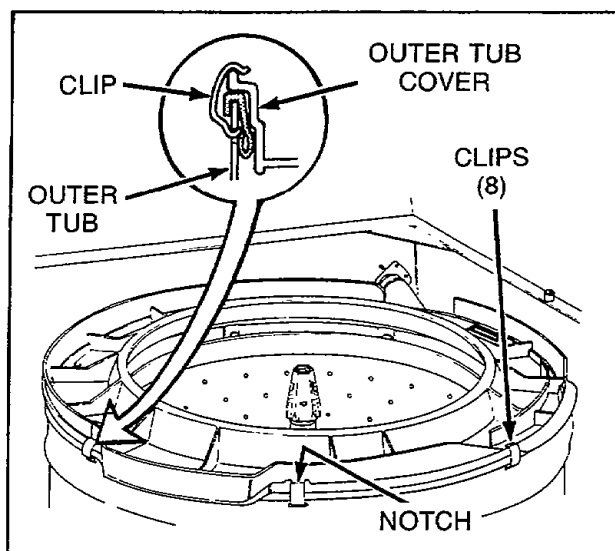

Figure 21
- Remove eight clips holding outer tub cover to tub, *Figure 21*, lift cover off tub and set beside washer cabinet.
NOTE: When installing outer tub cover, always use a new cover gasket. Lubricate the gasket with a rubber lube or liquid soap to aid in assembly. Cover must be placed on outer tub so notch on top edge of outer tub cover is directly over left front clip hole in tub, *Figure 21*. Starting with this hole, place each spring clip in its respective hole and snap in place. See *Figure 21* for proper clip installation.
preventer, then remove the eight clips holding cover to outer tub, *Figure 21*.
NOTE: When installing outer tub cover, lubricate the cover gasket with liquid soap to aid assembly. Cover must be placed on outer tub so notch on top edge of outer tub cover is directly over left front clip hole in tub, *Figure 21*. Starting with this hole, place each spring clip in its respective hole and snap into place.
- d. Loosen hose clamp and disconnect filler hose from backflow preventer, then remove the eight clips holding cover to the outer tub, *Figure 21*.
NOTE: When installing outer tub cover, always use a new cover gasket. Lubricate the gasket with liquid soap to aid in assembly. Cover must be placed on outer tub so notch on top edge of outer tub cover is directly over left front clip hole in tub, *Figure 21*. Starting with this hole, place each spring clip in its respective hole and snap in place. See *Figure 21* for proper clip installation.